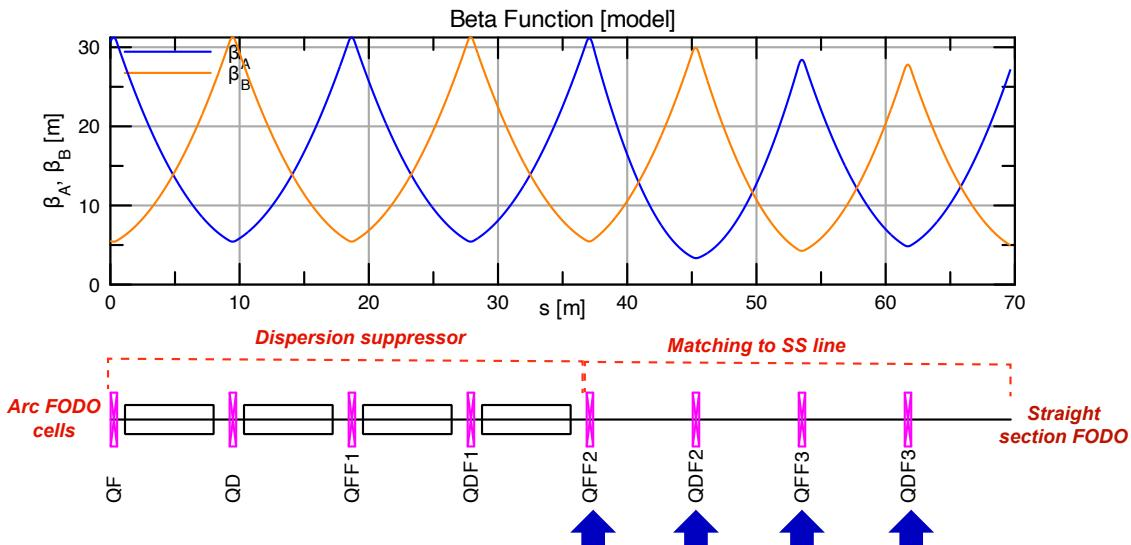

Figure 6: Dispersion suppressor match section.
4. Define the matching to the straight section (SS) line in Fig. 6 containing the matching quads. Because this is the forward matching to SS, Use the name **MSSF**.